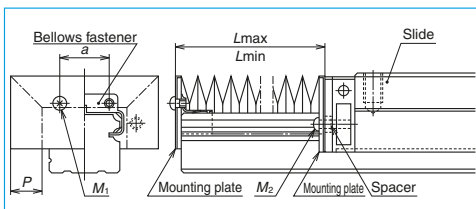

Fig. 7.7
* Fixing to the ball slide (**Fig. 7.7**)
- Remove two machine screws (M_2) which secure the end seals to the end of the slide (**Fig. 7.7**). For NS15, hold the end cap by hand. Otherwise, the end cap is detached from the ball slide, and the balls inside may spill out.
(5) Bellows
- To install bellows for NH and NS Models lightly knock a fastener exclusively for bellows to the end of the rail (**Fig. 7.7**). Then secure the mounting plate to the end of the bellows through the tap hole of the fastener.